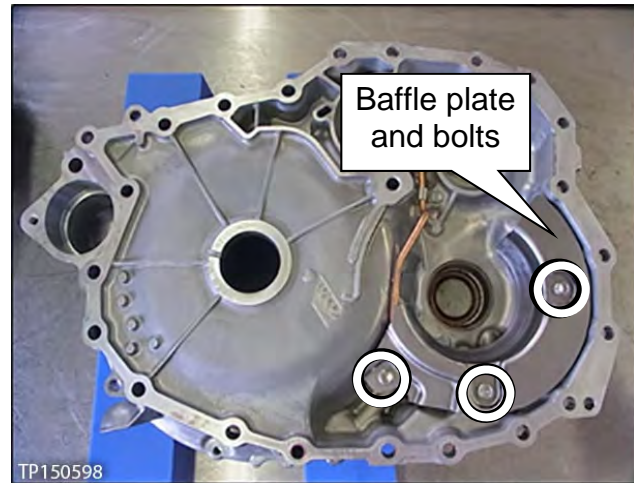

Figure 125
- a. Remove the three (3) bolts, and then remove the baffle plate from the converter housing (Figure 125).